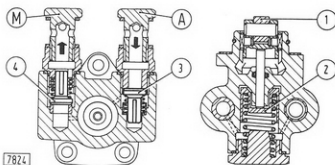

Fig. 40 - Sections through P.M. lift pump
- Inlet and outlet valve inefficiency (see 3 and 4, Fig. 40).
- Leakage past the piston (2).